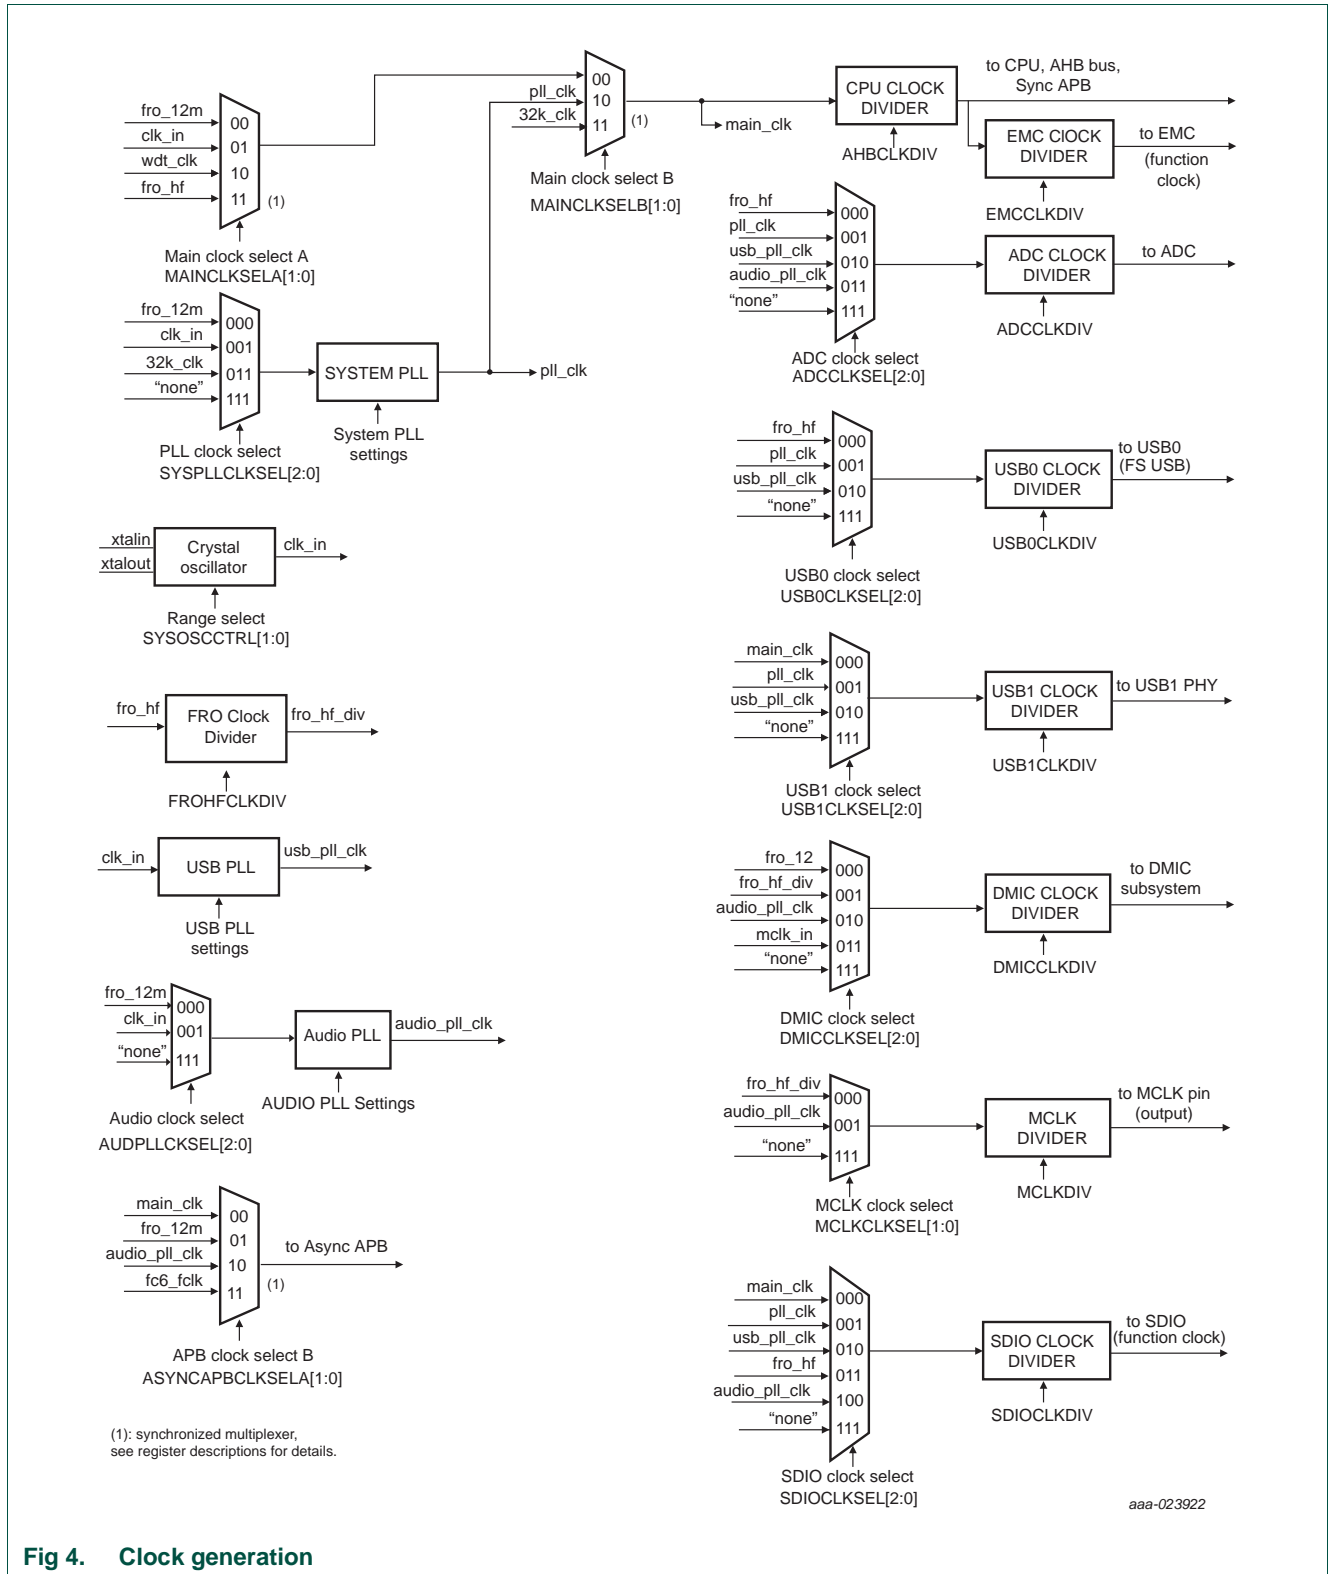
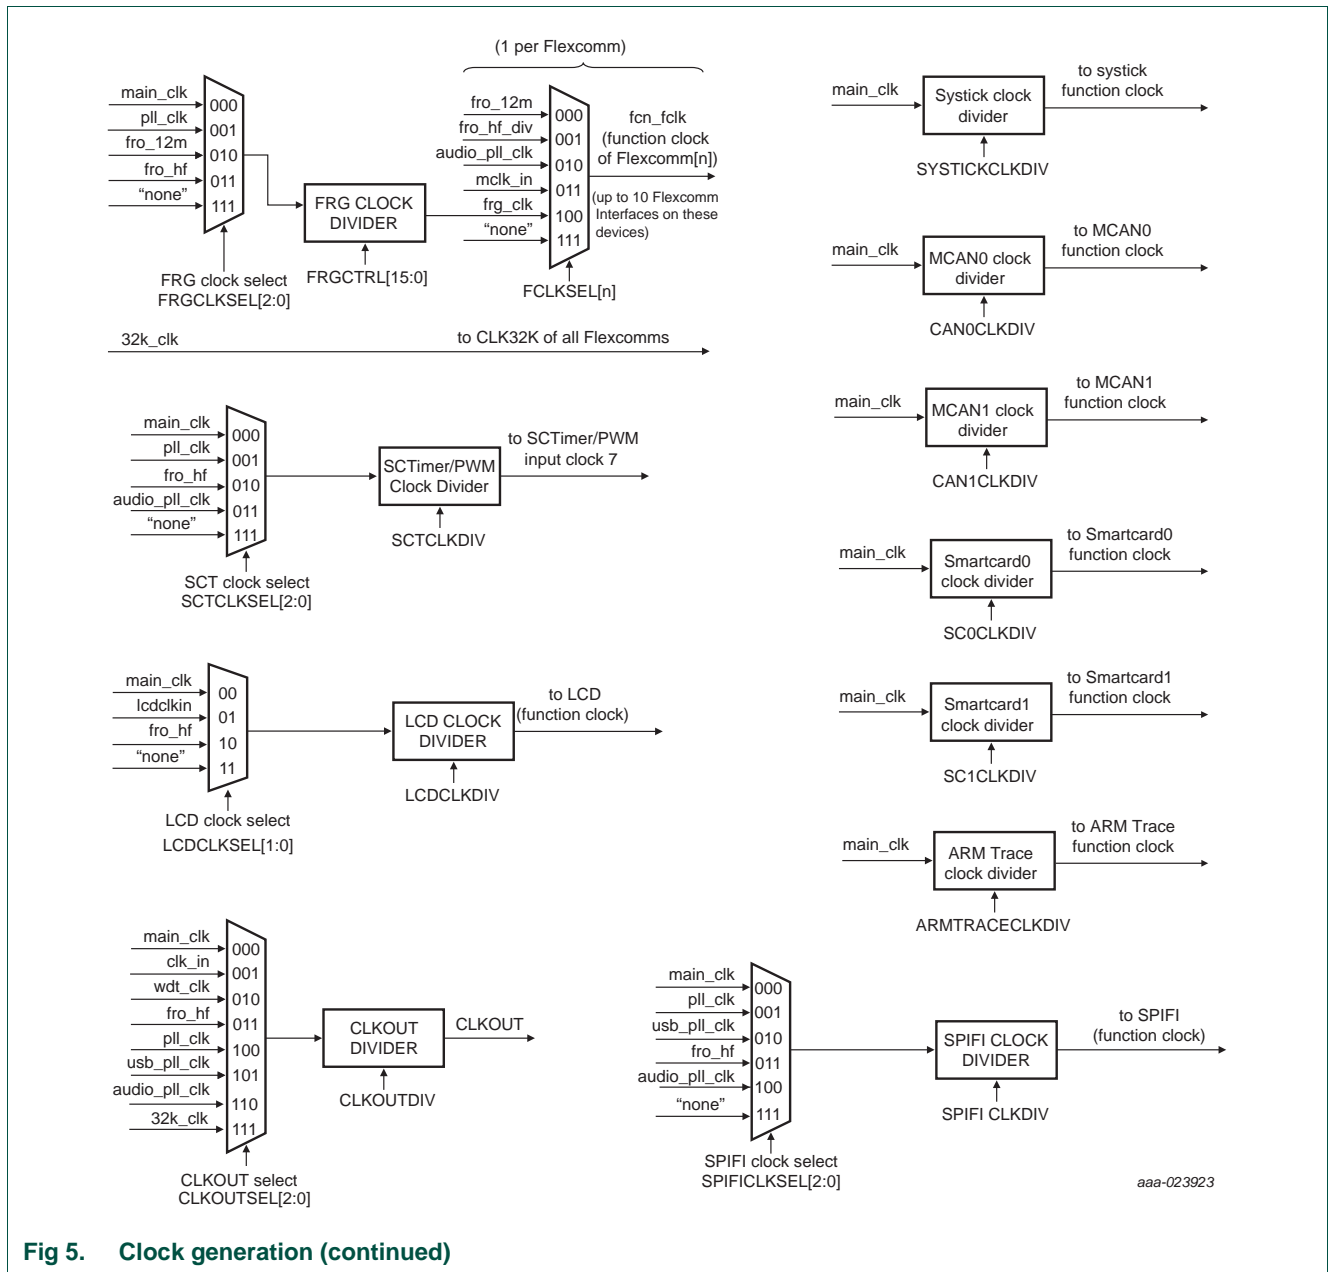

Fig 4. Clock generation
Fig 5. Clock generation (continued)
The system control block facilitates the clock generation. Many clocking variations are possible. Figure 4 and Figure 5 give an overview of potential clock options. The maximum clock frequency is 180 MHz.
**Remark:** The indicated clock multiplexers shown in Figure 4 are synchronized. In order to operate, the currently selected clock must be running, and the clock to be switched to must also be running. This is so that the multiplexer can gracefully switch between the two clocks without glitches. Other clock multiplexers are not synchronized. The output divider can be stopped and restarted gracefully during switching if a glitch-free output is needed.
audio_pll_clk	The output of the Audio PLL. The Audio PLL and its source selection are shown in <a href="#">Figure 4 "Clock generation"</a> .
fcn_fclk	The function clock of Flexcomm Interfaces. See <a href="#">Figure 5 "Clock generation (continued)"</a> .
frg_clk	The output of the Fractional Rate Generator. The FRG and its source selection are shown in <a href="#">Figure 4</a> .
lcdckin	The clock input to the LCD display controller. See <a href="#">Figure 5 "Clock generation (continued)"</a> .
main_clk	The main clock used by the CPU and AHB bus, and potentially many others. The main clock and its source selection are shown in <a href="#">Figure 4</a> .
pll_clk	The output of the System PLL. The System PLL and its source selection are shown in <a href="#">Figure 4 "Clock generation"</a> .
usb_pll_clk	The output of the USB PLL. The USB PLL and its source selection are shown in <a href="#">Figure 4 "Clock generation"</a> .